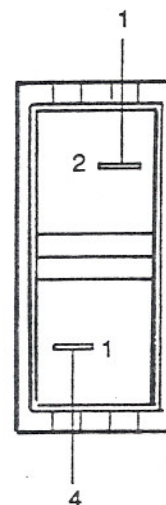

Figure 7-1. Circuit Breaker
2. Remove fast-on terminals, wires 4 and 1, from the circuit breaker (Figure 7-1).